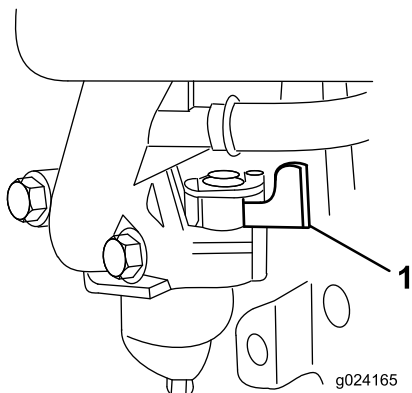

Figure 13
2. Open the fuel valve by moving the fuel-valve lever to the **right** (Figure 13).
Note: Close the fuel valve by moving the fuel-valve lever (Figure 13) to the **left** if you will not be starting the engine soon afterward.